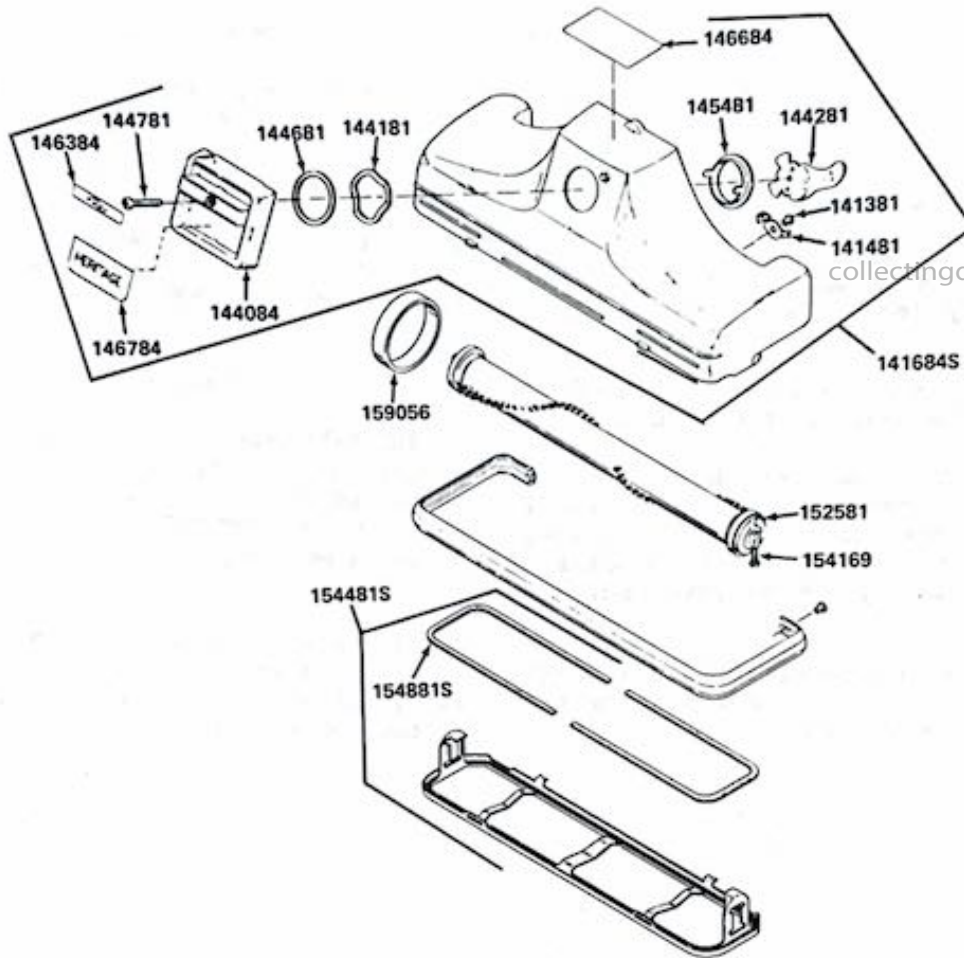

Figure 19. HERITAGE II nozzle group, exploded view
2-1. The exploded view illustration in figure 19 depicts the parts used in the assembly of the nozzle group of the HERITAGE II.
(1) Check for broken or slipping belt.
(2) Check brush adjustment. Bristle extension through face of nozzle rug plate should be at least 1/16 inch when measured as in figure 19. Adjust as required at adjusting screws.
(3) Check brush roll end bearings for accumulation of thread, hair, or dirt that could restrict free rotation.